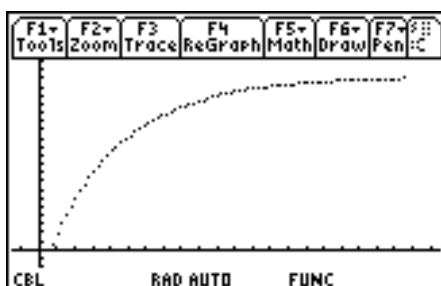

Figure 2.
5. After the data is collected, a plot of voltage (in volts) vs. time (in seconds) appears on the calculator screen. The plot should look similar to the one shown in Figure 2. Make a printout of this graph using TI-GRAPH LINK or save it as a PIC variable to be printed later. Attach this printout to your worksheet. Be sure to include appropriate scales and axis labels on the printout. The data is saved in lists  $L_4$  and  $L_2$ . It would be prudent to save these lists to lists with new names, perhaps  $C_1$  and  $C_2$ , as subsequent experiments will erase  $L_4$  and  $L_2$ .
1. From the screen shown in figure 2 press *GreenDiamond* + [Y = ] to get into the equation editor. Delete any existing equations. Now, as our first guess we will enter